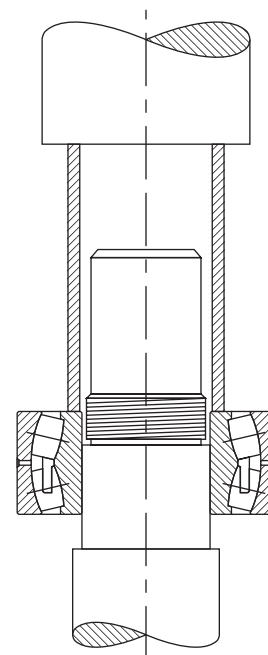

Fig. E-6. Arbor press method.
- An alternate method of mounting, generally used only on smaller size bearings, is to press the bearing onto the shaft or into the housing. This can be done by using an arbor press and a mounting tube as shown in fig. E-6.